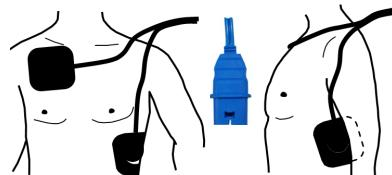
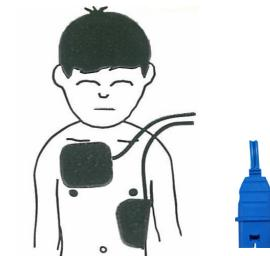

Fig. 3.3 Adult electrode application site
Fig. 3.4 Application sites for children more than 25 kg
Electrode placement is the same for adults and children weighing 25 kg or more (see Fig. 3.3 Adult electrode application site and Fig. 3.4 Application sites for children more than 25 kg).
3. Apply the other electrode slantwise below the left breast as illustrated in Fig. 3.3 Adult electrode application site/Fig. 3.4 Application sites for children more than 25 kg.